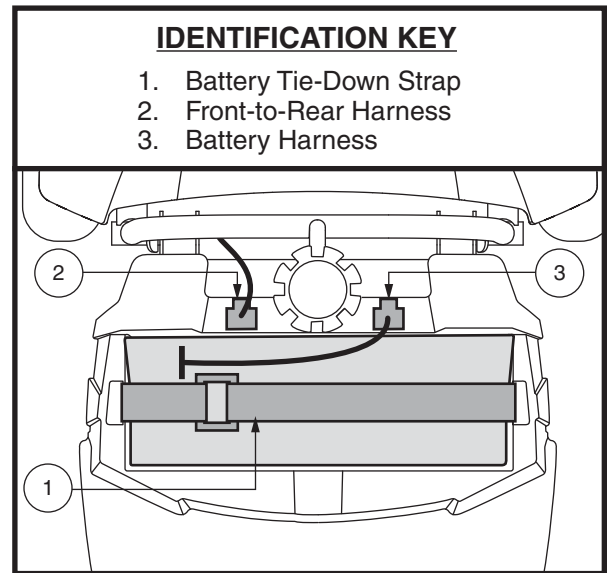

Figure 20. Battery Tie-down Strap
1. Disconnect the battery harness and remove the battery pack from the Travel Scooter. See figure 20.
See figure 20.